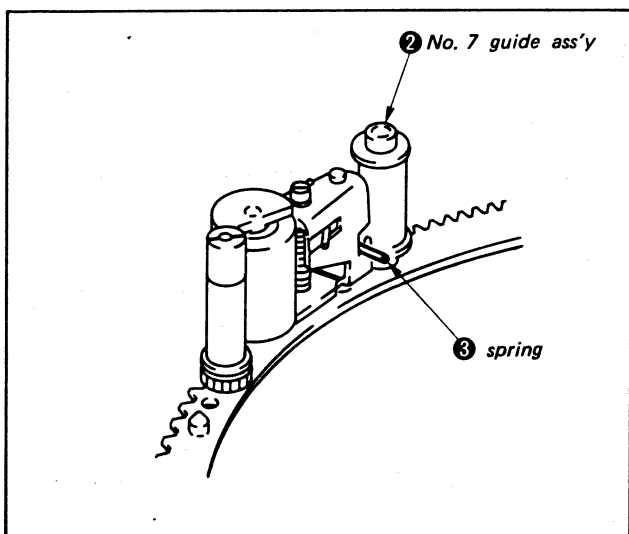

Fig. 3-11.
- 3) Change the position of the spring ③ on No. 7 guide assembly ②. (See Fig. 3-11)